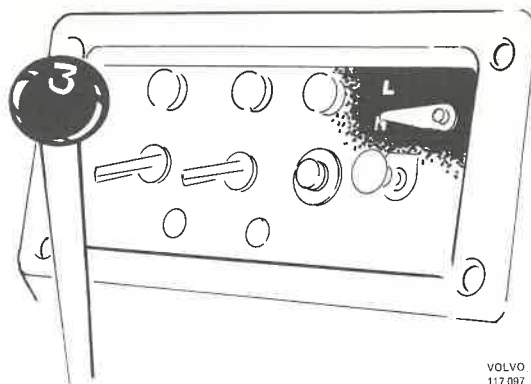

Fig. 92-14. Switching on the power take-off
3. Start the engine. Engage the winch by turning the control switch forwards, see Fig. 92-14.